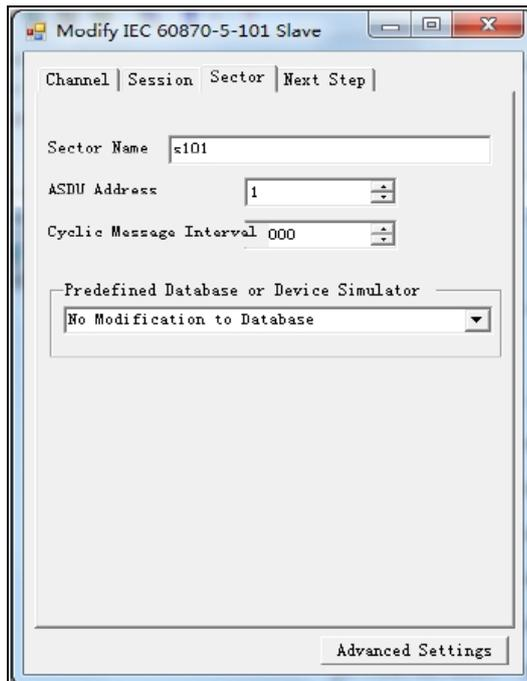

Figure 2-23 101 slave station setting 3
3) Choose **101 parameters > Other**. Set the common 101 address to be the same as the ASDU address of the 101 slave station, as shown in Figure 2-23.